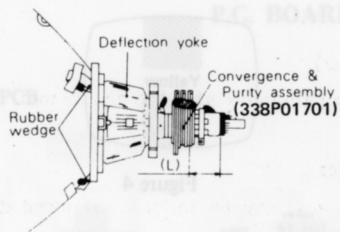

Figure 1
- (1) Remove the deflection yoke and the rubber wedges from the picture tube cone, taking care not to strike or scratch the cone surface.
- (2) Clean the remaining cement off the deflection yoke and the surface of the picture tube cone.
- (3) Put the deflection yoke on the neck of the picture tube, fully forward against the cone of the CRT.
- (4) Put the Convergence-Purity Assembly on the neck of the picture tube so that the distance between the 6-pole magnet and the base of the tube is 32 mm ($1\frac{1}{4}$ inches), as shown in Figure 1, and hand-tighten the screw.
- (5) Demagnetize the front and sides of the picture tube with a degaussing coil.